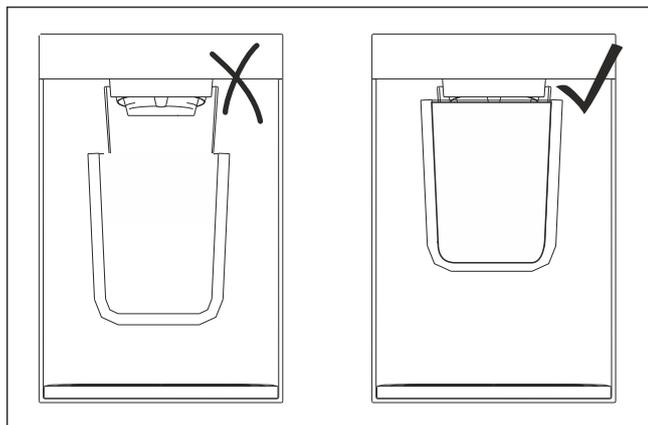

Fig. 103 Example illustration
- ▶ Hold the container as close as possible to the dispensing opening. (see Fig. 103)